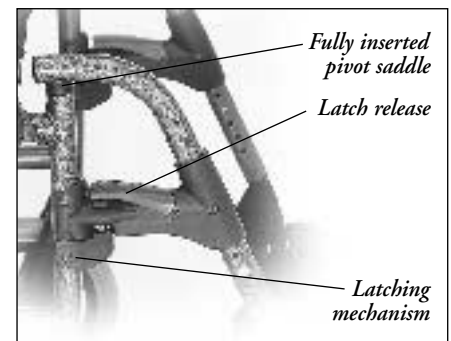

Figure 14
SWING-AWAY FOOTREST (Fig 14)**Attachment****Step 1:**
The footrest pivot saddle should be fully inserted into the front frame section (Fig. 14).
- Once in alignment with the sideframe, the latch mechanism (Fig. 14) should automatically engage and prevent the movement of the footrest.
Begin by pressing the latch release mechanism down (Fig. 14).